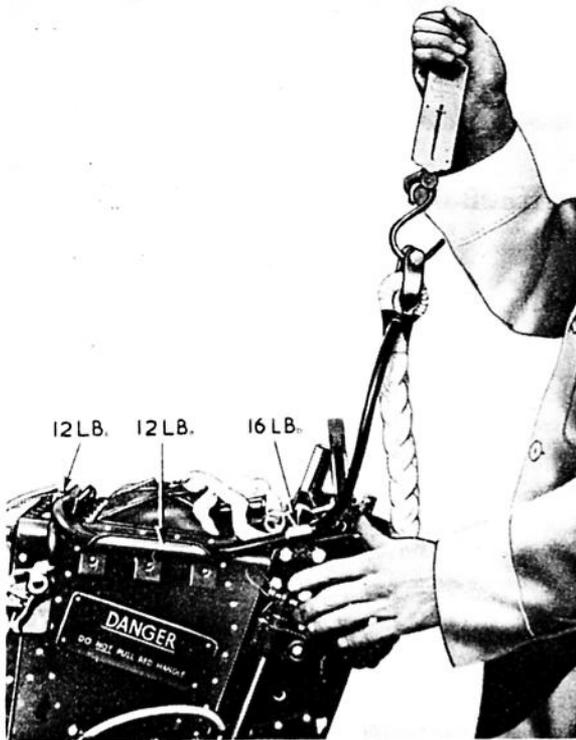

Fig. 1. Testing the lifting lines
- (2) Connect the spring balance to the drogue shackle and pull upwards. The lifting lines should not pull out of the first clip until the scale registers 16 lb. as indicated in fig. 1, and 12 lb. for the remaining clips. A tolerance of ± 2 lb. is permissible, and adjustments may be made by opening or closing the clips as necessary.